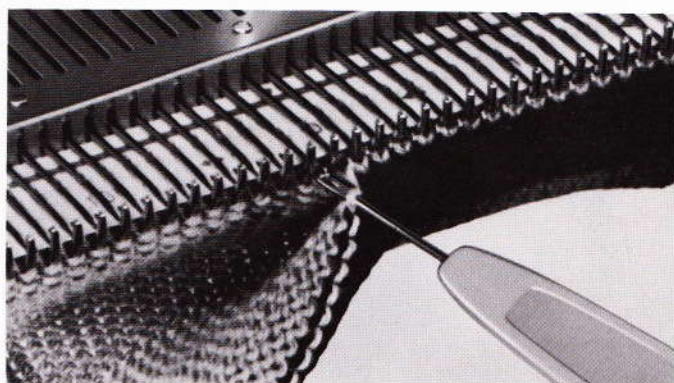

Fig. 58
- Now transfer the 2nd stitch of the hem onto the 3rd needle, the 3rd stitch onto the 4th needle and so on to the end of the row. (fig. 58)